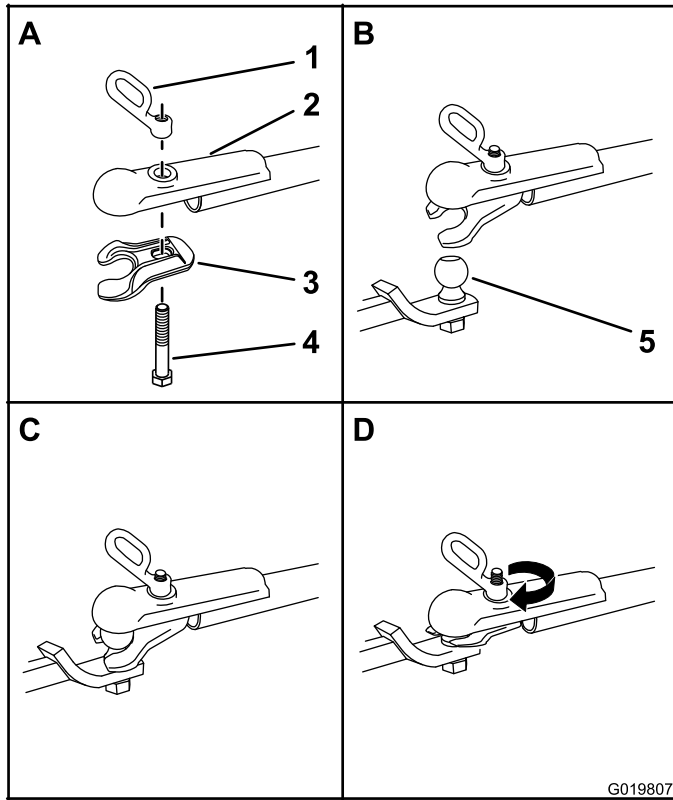

Figure 17
1. Apply removable thread-locking compound to the threads of the coupler bolt to prevent the coupler handle from coming loose (Figure 17).
3. Push the coupler bolt up through the coupler clamp and the coupler top, and connect the coupler handle to the bolt (Figure 17).
5. Turn the coupler handle clockwise to thread it onto the bolt until it is secure (Figure 17).